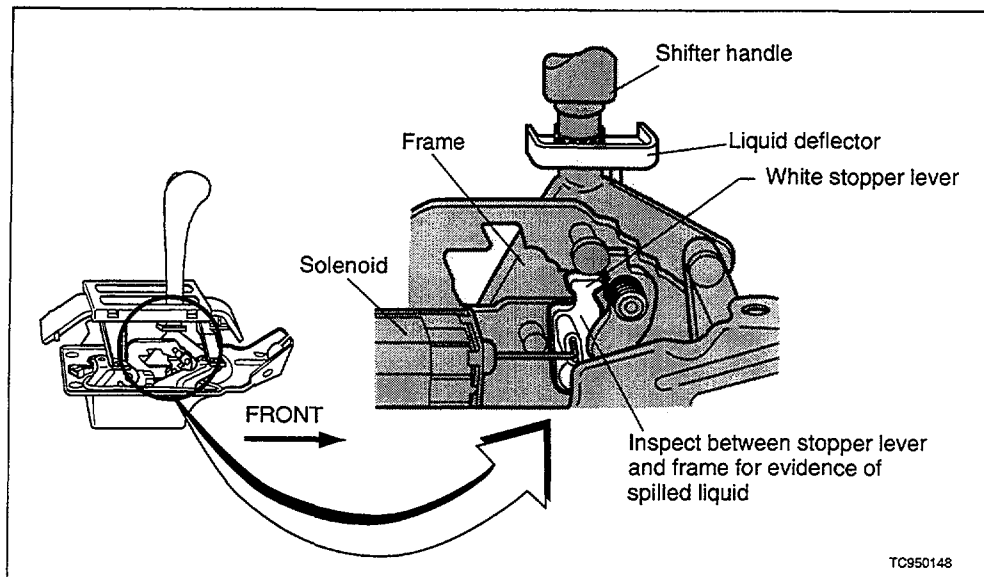

Figure 1
3. Perform the shift lock solenoid component check as described on page AT-124 in the 1995 Maxima Service Manual. If the solenoid "clicks", but the white stopper lever doesn't move to the forward position, inspect the area for evidence of spilled liquid, as shown in Figure 1. If any evidence of spilled liquid is found, install the appropriate countermeasure A/T shift control device listed on page 2 of this bulletin.